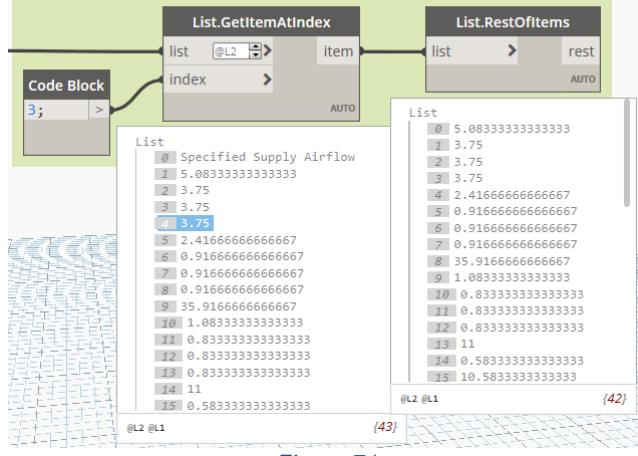

Figure 71
15. Group these nodes as: **2. Extract data required** and then run the graph (see Figure 71).